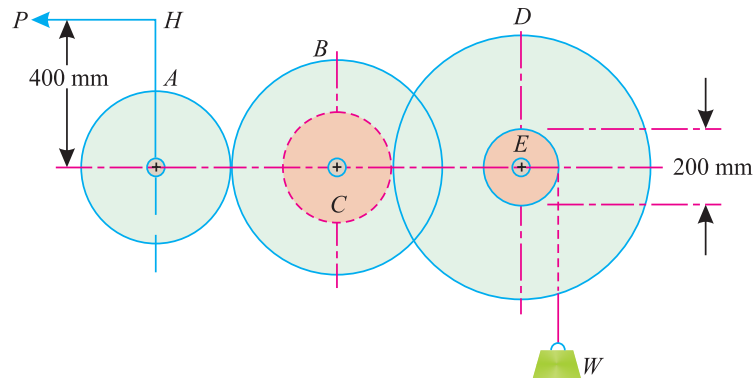

Fig. 34.10.
**Example 34.3.** A handle  $H$  drives a pinion  $A$ , which drives a drum  $E$  through gear wheels  $B, C$  and  $D$  as shown in Fig. 34.10.